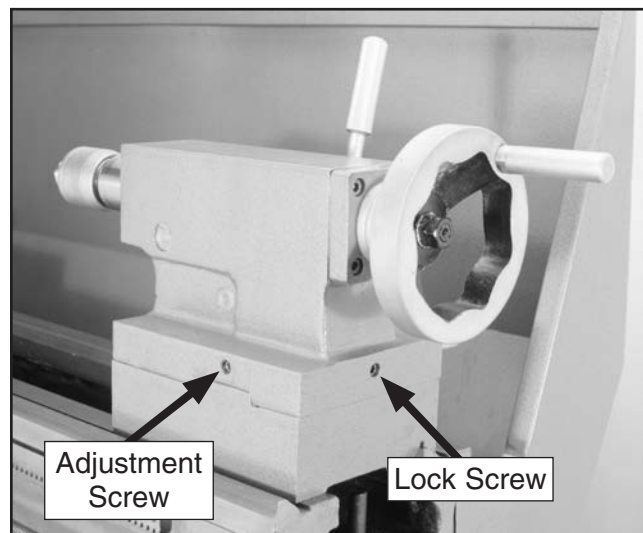

Figure 39. Tailstock offset adjustment screw.
7. Loosen the tailstock mounting bolt. Adjust the tailstock offset by the amount of the taper by turning the adjustment setscrews. See **Figure 39**. Turn another .010" off of the stock and check for taper. Repeat as necessary until the desired amount of accuracy is achieved.